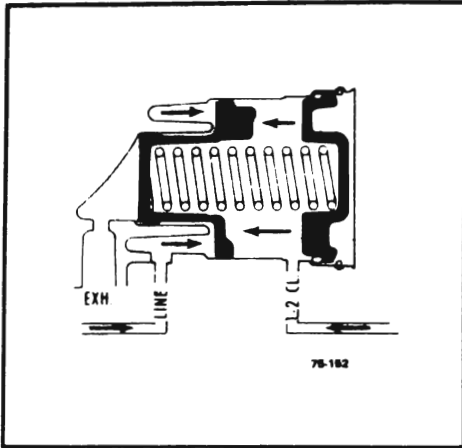

Figure 75-19 - 1-2 Accumulator
g. 1-2 Accumulator (See Figure 75-19)